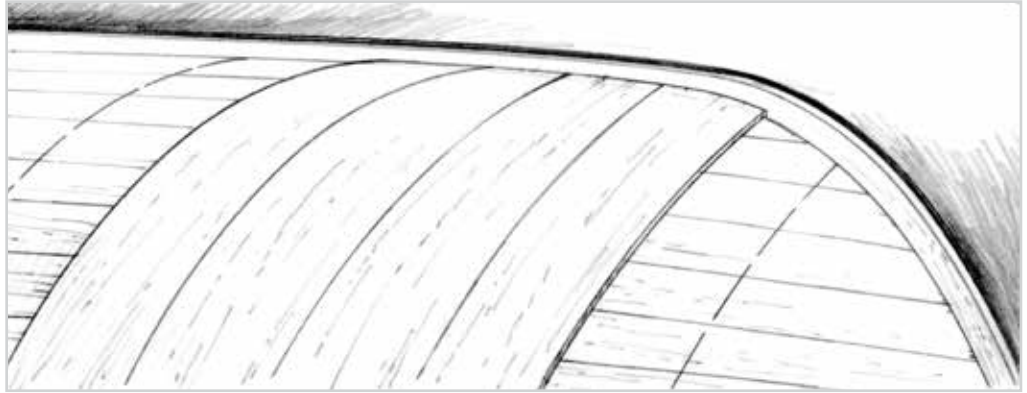

Figure 5-21 Bond the first layer at an angle that allows it to lie flat against the surface.
2. Bond the first veneer about midpoint on the hull. Use the one-step bonding technique (Section 8.4.2) with G/flex 655 or an epoxy/403 filler mixture. Staple the veneer so it lies flat against the surface at about a 35° diagonal (Figure 5-21). Adjust the angle as necessary to allow the veneer to lie flat along its full length.